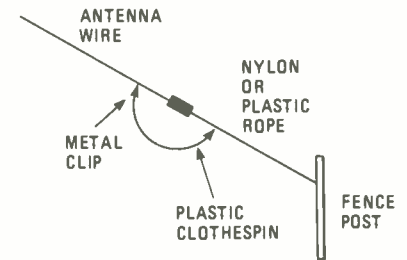
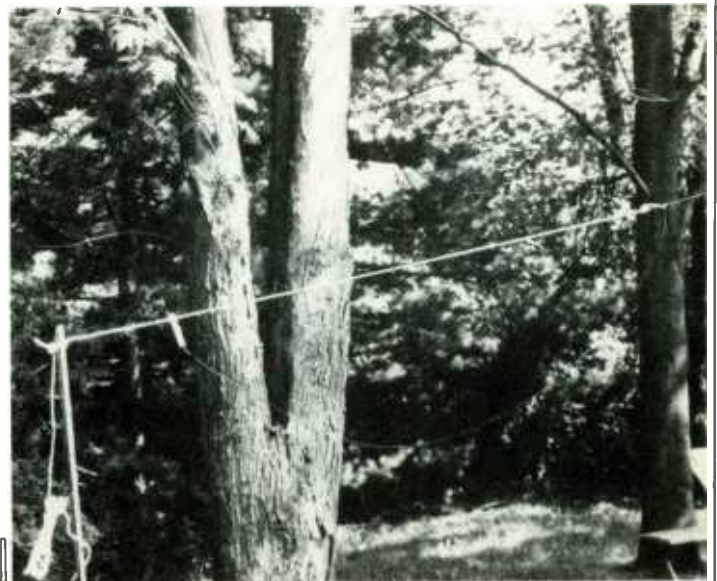

Fig. 3—Attachment of antenna add-ons.
Fig. 4—10-meter add-on in place.
**Fig. 3—**The battery-based power supply for Phototach. Should the battery be installed outside the cabinet, no power switch (S3) is required. Otherwise, install one!
Small, attached add-on lengths of wire can be used to resonate the basic long-wire antenna construction to 15 meters or 10 meters. The 10-meter add-on also resonates as a 75-meter dipole. The arrangement for attaching the add-on sections is shown in Fig. 3. A metal clip is used to attach the add-on to the very end of the 20-meter antenna wire. The other end of the add-on is attached to a plastic clothespin which in turn can be clipped on to the rope segment that stretches out to the antenna legs to the fence posts. The supported add-on to one antenna leg as well as the insulated clip are shown in Figs. 4 and 5.
A complete AND driver demonstrator is given in Fig. 3. The simple switching arrangement of Fig. 2 is used for logic inputs to one dual section, while the output of a slow clock output from a 555 chip is applied to other input for the second dual section. Clock gating is handled by switch S3. If you wish, wire the AND driver demonstrator circuit shown in Fig. 3 on a solderless circuit board.
Place the circuit (Fig. 3) in operation by applying power—+5-volts DC. The CLOCK LED will come on each time the clock output at pin 1 of the driver is at logic 0 and switch S3 is set at logic 1. The CLOCK LED comes on and off at the clock rate. When S3 is at logic 0, the CLOCK LED will not come on.
Fig. 3—Driver demonstrator circuit uses a 555 timer to provide a slow clock input to the UDN-3611M dual AND gate/power driver. Clock input to pin 1 of the driver is constantly switching from 0 to 1. Switches S1, S2, and S3 provide other logic inputs used to verify operation as described in text.
Fig. 4—The test setup in Fig. 3 can be modified to operate a small relay as detailed here. LED's serve as the load in this circuit, however they can be replaced with inductive loads of higher current without damaging the gate/ power driver. One of four different dual gate/ power drivers can be used in this circuit and the circuit of Fig. 3.
Fig. 5—Another circuit variation that can be performed on the basic circuit presented in Fig. 3. Here, the dual sections are connected in parallel and the choice of logic control is provided by switch S4. The driver transistors can be connected to a power supply up to +80-volts DC.
basic circuit of Fig. 4.
No other change need be made with the exception that the two relays are connected to the outputs at pin 3 and pin 5 as shown in Fig. 4. The relays selected are Radio Shack 275-246 types. Their coil voltage is 5-volts DC and output contacts are capable of handling 3 amperes at 125-volts AC.
Add the relays to your circuit. Check out the operation. When switch S3 is at logic 1 (see Fig. 3) the associated output LED will turn on and off at the clock rate. When the clock input to the gate/power driver is a logic 1, the relay is de-energized. You can check that out using switches S1 and S2. Both must be set to apply logic 1 if the associated relay is to be de-energized.